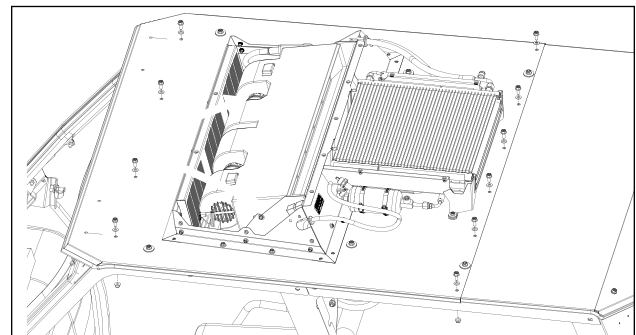

Fig. 4.8 Remaining Roof Fasteners
- 4.8 Per fig. 4.8, loosely fasten the remainder of roof fasteners. Washers under bolt heads.